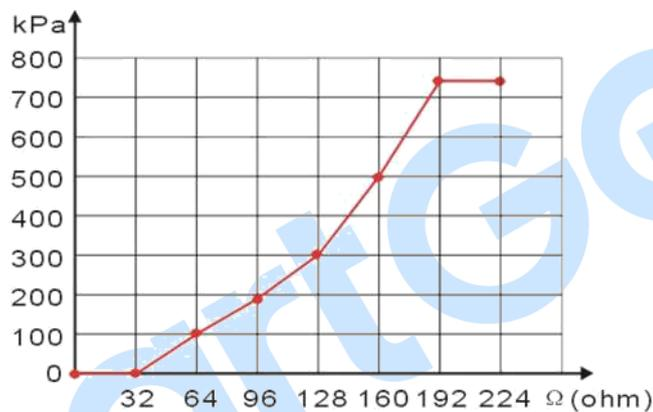

Fig.7 Sensor Curve Setting
- It is applicable to set the headmost and backmost values in the vertical coordinate as the same as the Figure 7.